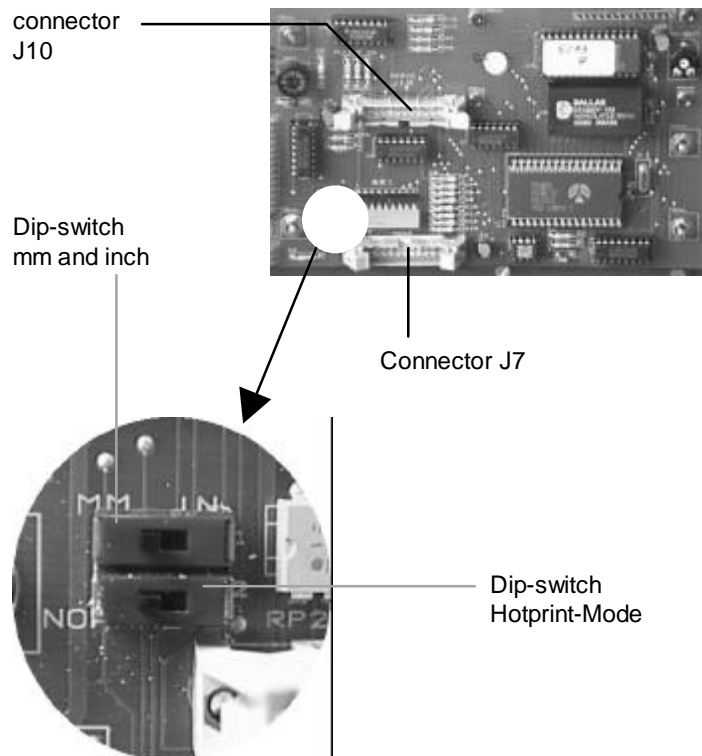

Figure 20. Setting the unit of measure
- On the rear of the control panel you will find two Dip switches next to the connector terminal J7. One is marked „mm“ and one „inch“ (Figure 20). Switch these switches to the desired unit of measure.
In order to make the Hotprint mode the standard setting proceed exactly as described above in the section entitled „Unit of measure, changing the standard setting “. See Figure 20 for the correct Dip switch.